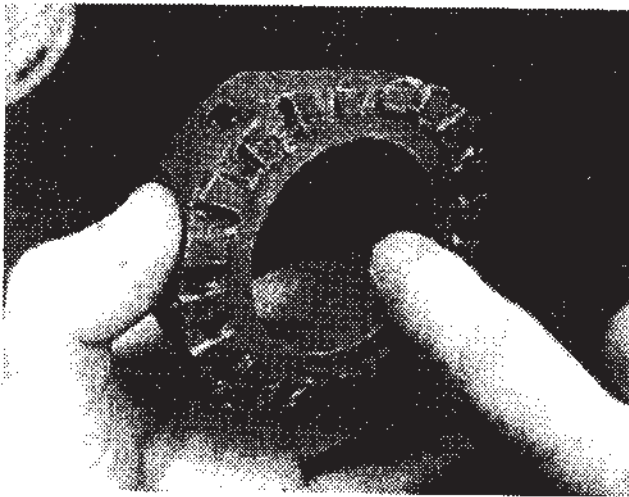

Figure 4
1. **Coat the teeth** of the couplers and drivers, the large center holes of the drivers (**Figure 4**), and both sides of the thrust washers with medium grease. Also place a little grease in each of the two window holes in each driver. The grease will help hold things in place and assist with functioning until the gear oil circulates.